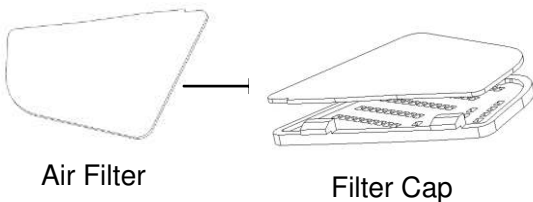

Figure 3-5 Attaching air filter to filter cap
- Attach the air filter to the filter cap, as shown in Figure 3-5.